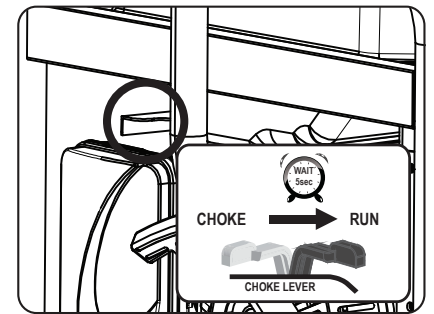

Fig 13
- Let engine run for several seconds and then gradually, as engine warms up, slide the choke lever towards the “RUN” position until the choke is fully slid to the “RUN” position. (See fig 13)